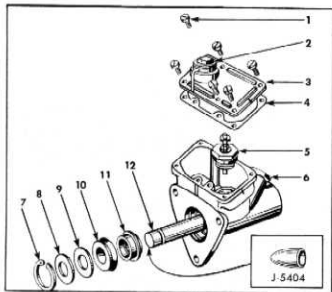

Fig. 16
3. Insert and center valve (3) and spring (4) in fitting (1) and screw assembly into port. Tighten fitting to 50 lb.ft. torque.
4. Dip new hydraulic cup (10) in brake fluid and place large side of cup retainer (11) to lip side of cup (fig. 16).
6. Remove tool J-5405 and place washer (9) and steel washer (8) on plunger and insert plunger